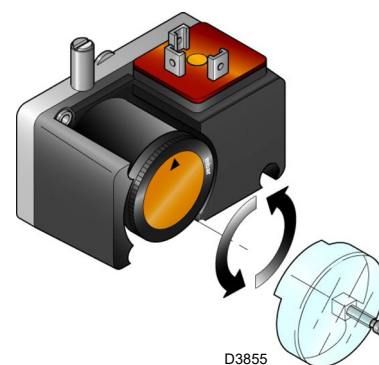

Fig. 34
- Adjust the pressure switch for the valve leak detection control device (PVP Kit)(Fig. 34 at page 33), if present, according to the instructions supplied with the Kit itself.
Adjust the pressure switch for the valve leak detection control device (PVP Kit)(Fig. 34), if present, according to the instructions supplied with the Kit itself.